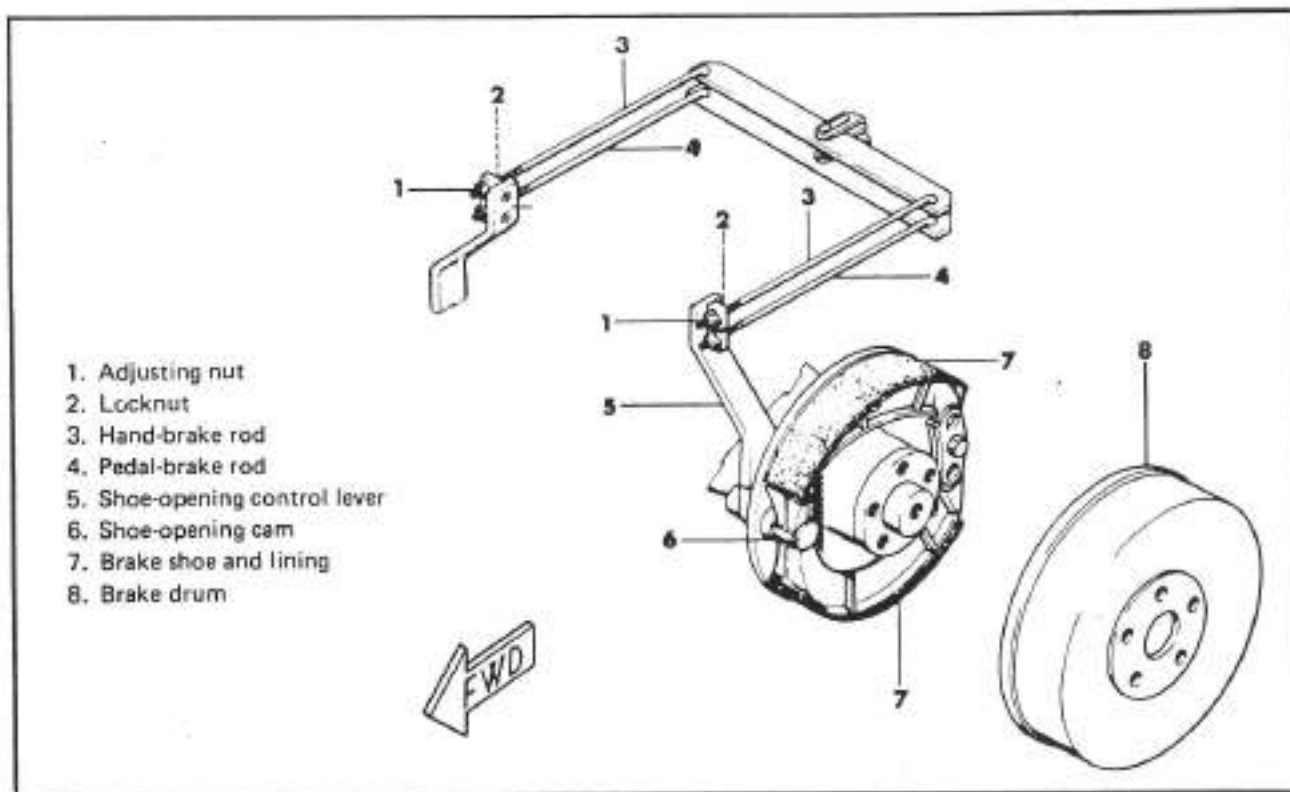
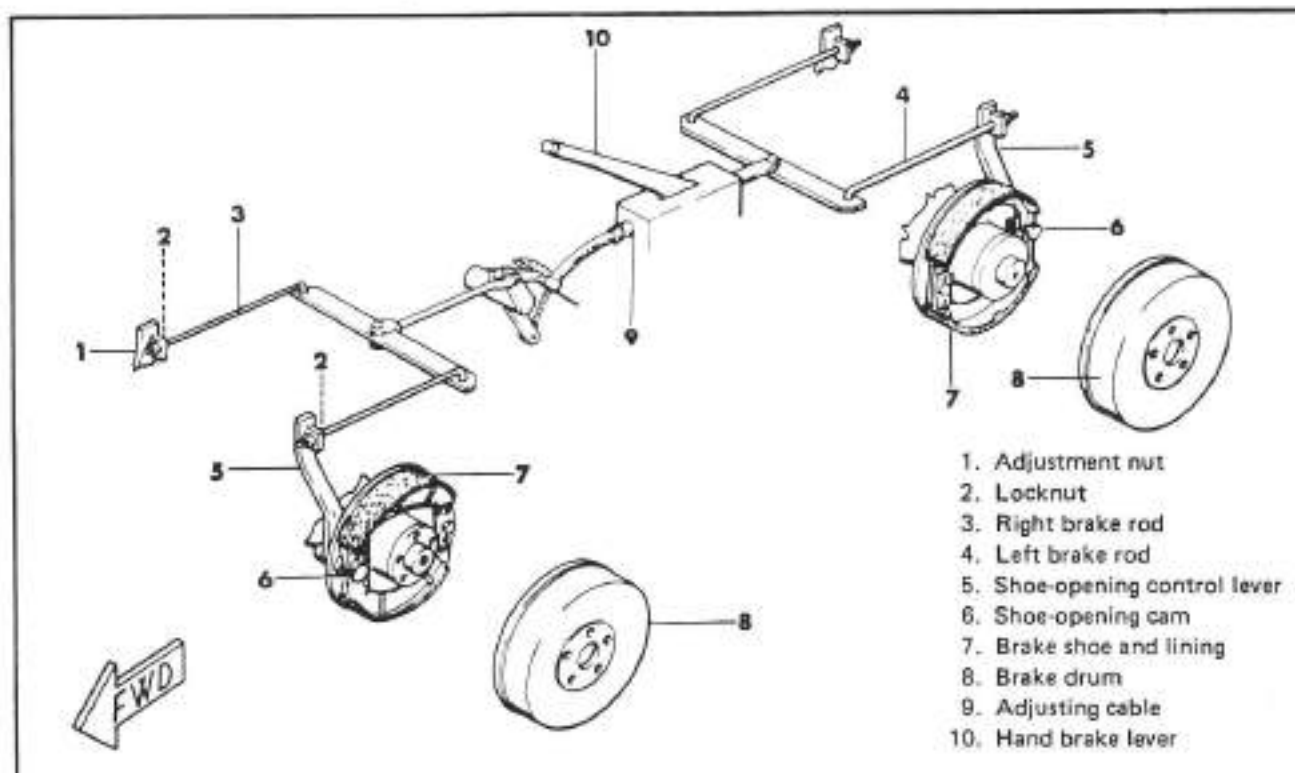
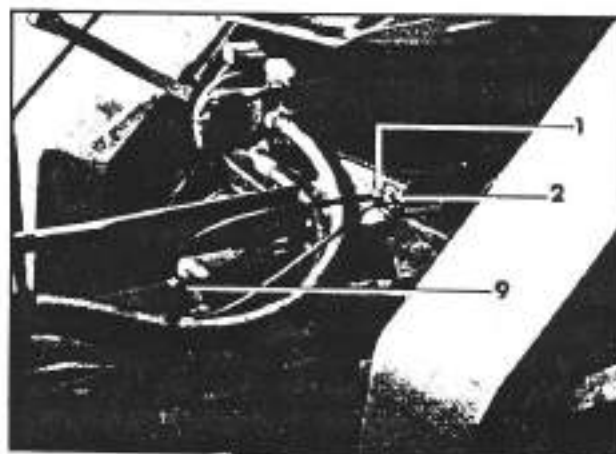

Fig. 2-2. Adjustment of the brakes (tractor Mod. 75)
Fig. 2-3. Adjustment of brakes (tractor Mod. 76)
Fig. 2-4. Adjustment of the differential lock control
If the brakes slip or if the idle stroke of the pedal becomes excessive (more than 20 mm), adjust the control rods (4, fig. 2-2) as follows:
- a. Loosen the locknut (2, fig. 2-2).
- b. Tighten the adjusting nut (1, fig. 2-2) until the idle stroke of the pedal is less than 20 mm.
- c. Tighten the locknut (2, fig. 2-2).
If the action of the hand brake is inefficient, adjust the control rods (3, fig. 2-2) as follows:
- b. Tighten the adjusting nut (1, fig. 2-2) until the lever of the hand brake starts the braking action after the idle stroke over the first two teeth of the ratchet.
Adjustment of the rods (3, 4; fig. 2-2) must be made simultaneously when regulating the brakes.
The adjustment is the same as for tractor Mod. 75 by use of the nut (1; fig. 2-3) and the locknut (2; fig. 2-3).
After adjustment, if the front wheels of the tractor have more braking action than the rear wheels or vice versa, adjust the brake cable (9; fig. 2-3) for the rear wheels. See also figure 2-4.
Whenever adjustment of the rods (3, 4; fig. 2-2 or 3; fig. 2-3) is not sufficient to establish a correct braking action (the locknut (2; fig. 2-2 or fig. 2-3) has reached the last thread) it will be necessary to remove the brake drum (8; fig. 2-2 or fig. 2-3) and check the wear on the brake lining. If the wear on the lining is excessive, replace the brake shoes (7; fig. 2-2 or fig. 2-3); otherwise adjust the shoe-opening cam as follows:
adjusting the nuts (1, 2; fig. 2-4) after having previously loosened the respective locknuts. If the adjustment is not sufficient to establish the condition of perfect functioning, see Chapter III, under item TROUBLES AND REMEDIES — FRONT DIFFERENTIAL AND TRANSMISSION UNIT.